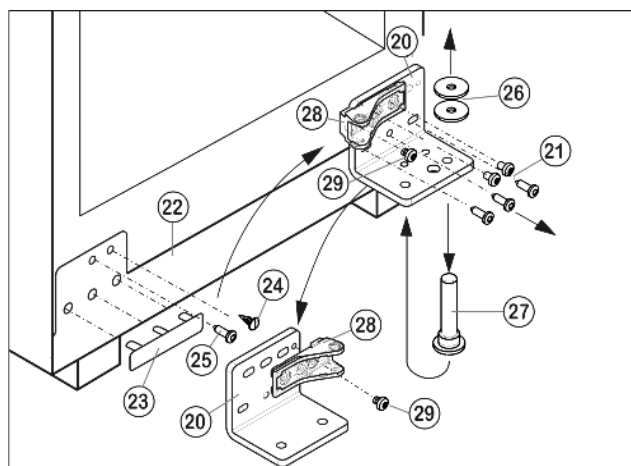

Fig. 21
- ▶ Unscrew bearing bracket Fig. 21 (20) together with bearing pin (I) (3 x Torx 25) Fig. 21 (21). When doing so, hold panel (I) steady so that it does not drop.
- ▶ Carefully lift off the cover on the handle side Fig. 21 (23) and the plug (I) and move them to the opposite side.
- ▶ Unscrew screw Fig. 21 (25) and move it to the opposite side. When doing so, hold panel steady so that it does not drop.
- ▶ Unscrew bearing part Fig. 21 (28), turn it 180° and tighten Fig. 21 (29).
- ▶ Remove bearing discs Fig. 21 (26) from bearing pin (I).
- ▶ Unscrew bearing pin (I), move to other side and place bearing discs Fig. 21 (26) on.
- ▶ Using a cordless screwdriver if necessary, attach Fig. 21 (21) the bearing bracket Fig. 21 (20) to the new hinge side. First fit the lower center screw, then the other screws.
- ▶ Ensure that the bearing discs Fig. 21 (26) are on the lower bearing pin ().
- Unscrew center screw on lower part of bearing bracket Fig. 21 (20).
- Align the doors flush with the appliance housing using the two oblong holes in the lower bearing bracket Fig. 21 (20) as a guide if needed.